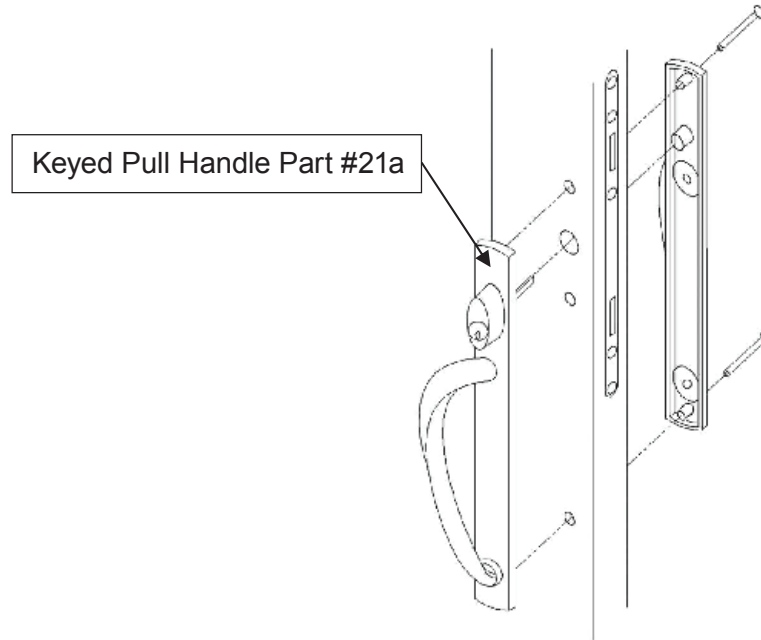

FIGURE 1
25. Install the pull handle (Part #21a, 21b, or 21c) by inserting the exterior and interior handle into the pre-drilled holes. Secure handle by installing the screws included with the handle kit on the interior side as shown in Figure 1.